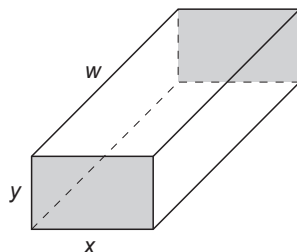

Fig. 3.1
- 14 (a)** A uniform metal bar, initially unstretched, has sides of length w , x and y , as shown in Fig. 3.1.